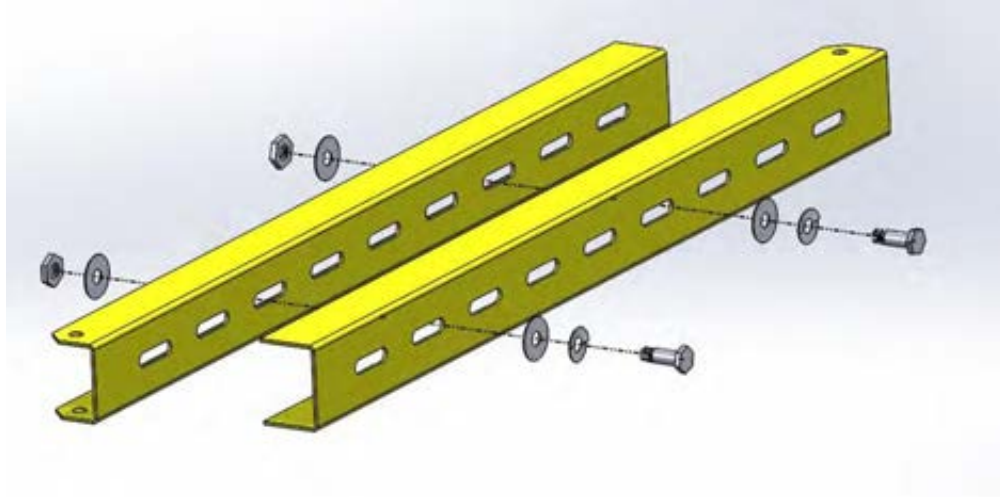

Figure 11. Support rail assembly
- To assemble the support rails, fit the smaller inner channel inside the larger outer channel so that the mounting holes on the flanges are opposite one another. Slide the channels to obtain the correct length determined by the panel tilt angle. Secure the support rails together at the desired length using a 1/4-20 x 3/4" hex bolt, lock washer, and flat washer on one side, and a flat washer and hex nut on the other side (2 per rail assembly) as shown in **Figure 11**.